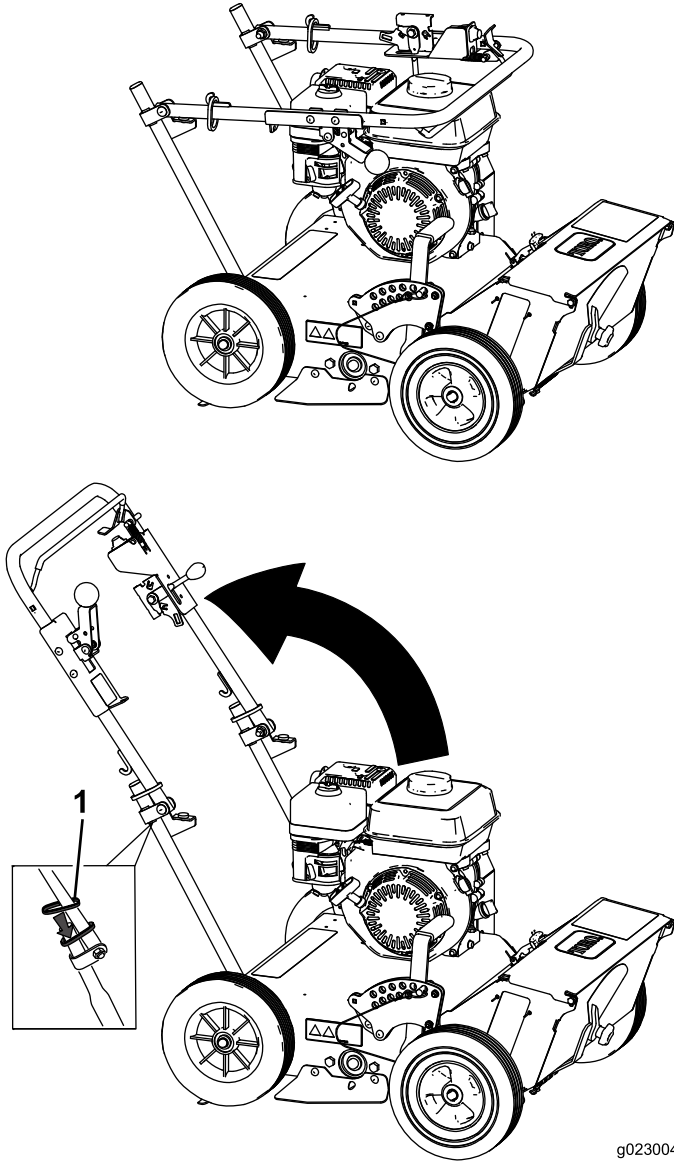

Figure 4
1. Raise the handle to the operating position (Figure 4).
2. Slide the oval locking rings down each side of the upper handle over the lower handle (Figure 4), locking the handle sections together.